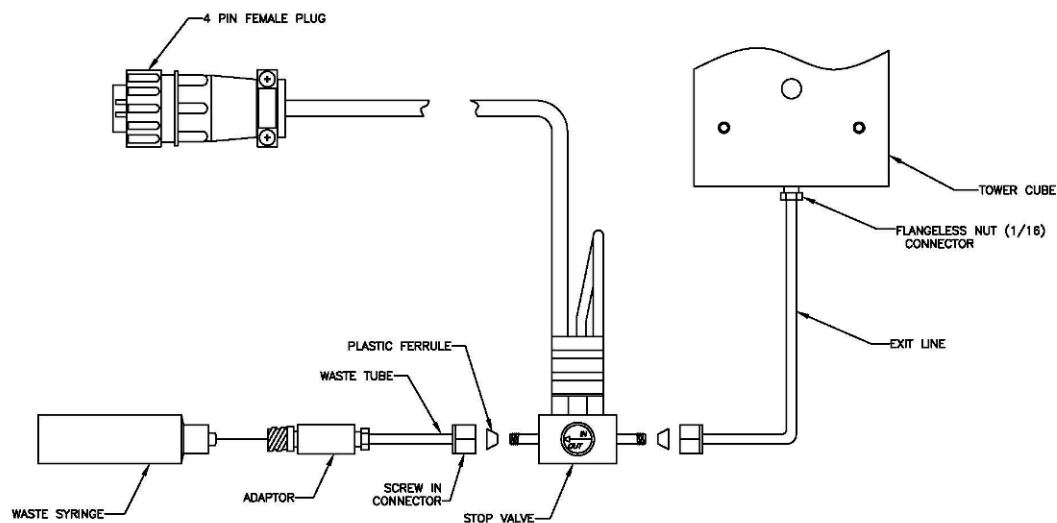

Figure-1: Drawing of Stop-Valve and connections.
6. The Stop-Valve should be connected to the bottom of the stainless steel cube (*Figure-1*). If the line has already been connected to the cube you must connect the line to the Stop-Valve itself. Please insure plastic ferrule is between the Stop-Valve and 2-Inch Line. If any of the Minstac connections are disconnected, always insure the ferrule is installed between tube and surface. The end of the Stop-Valve Cable has a black female 4-pin connector. This will be attached to the male connection marked “*Stop-Valve*” on the back of the control unit.